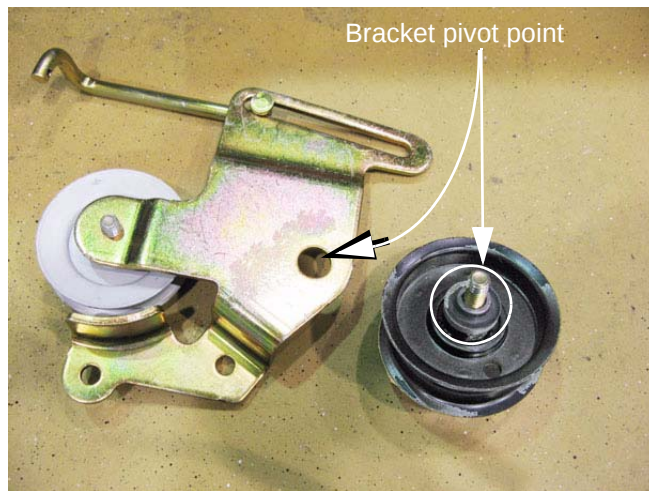

Figure 5.40
8. On the bench, the flat-sheave idler pulley, and the spacers used to position it can be lifted off of the pulley bracket. See Figure 5.40.